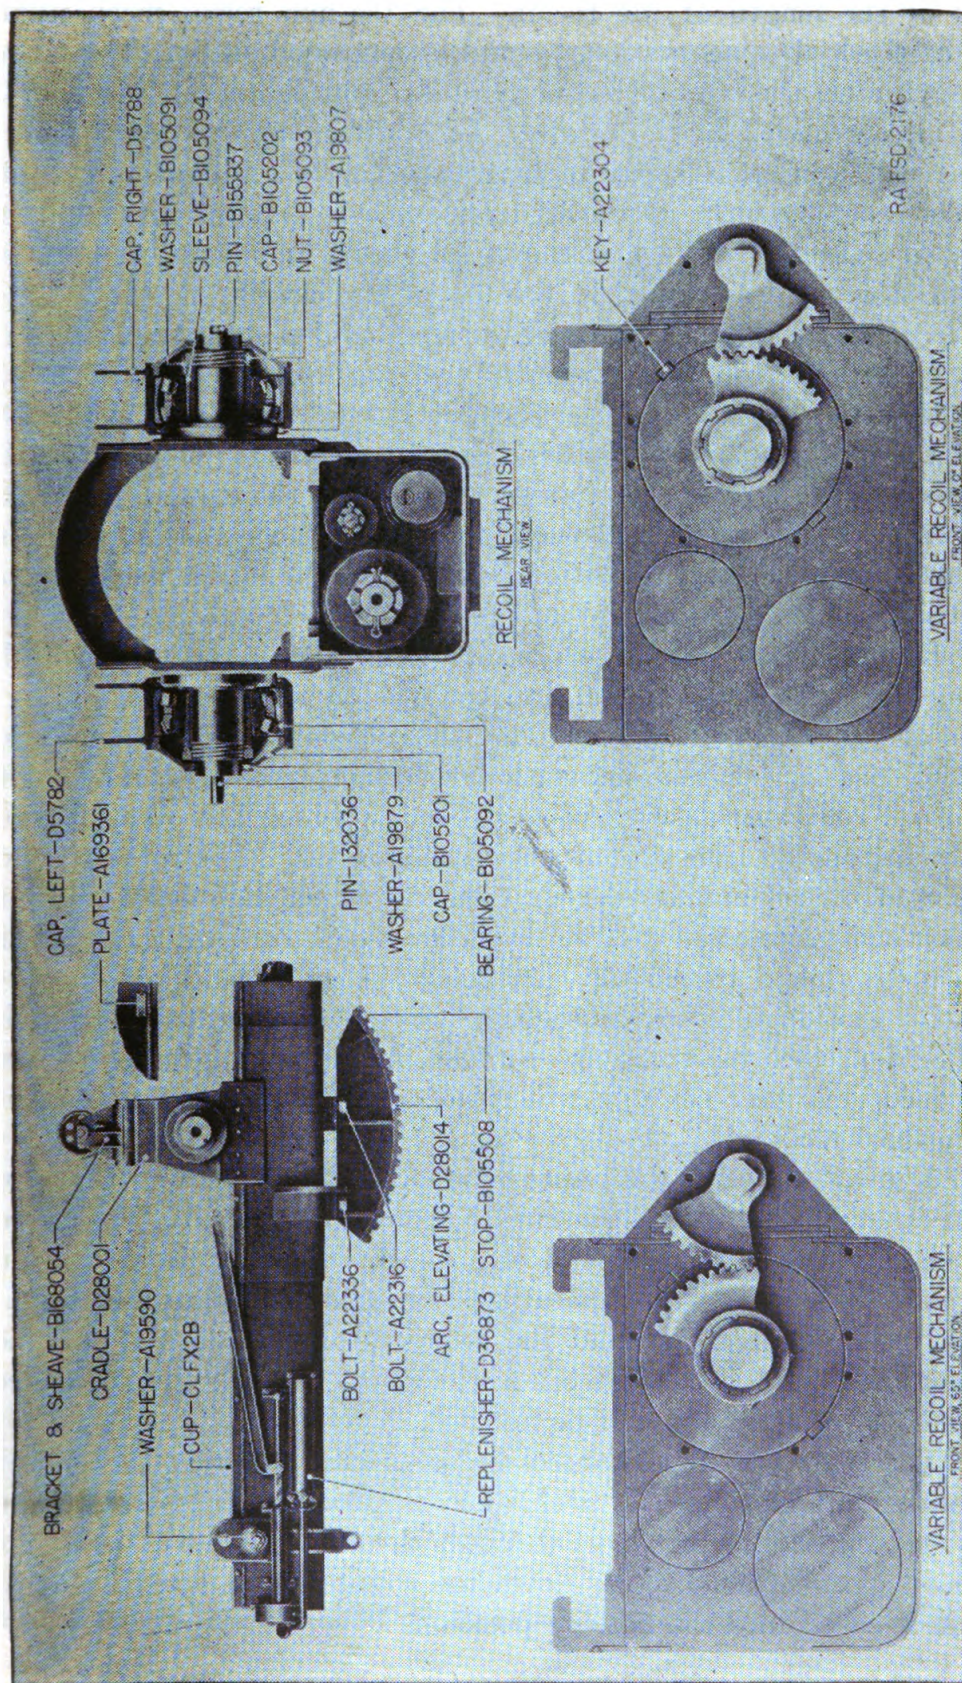

Figure 13.—155-mm gun recoil mechanism M1.
**9. Cradle.**—The cradle is mounted on the antifriction trunnion bearings of the top carriage. It houses the recoil, counterrecoil, and recuperator cylinders. The cradle trunnions form the fulcrum for the movement of the gun in elevation. One end of each of the two equilibrators is secured to the cradle near its front end. The other end of the equilibrator is attached to the trunnion cap on the top carriage. A cradle lock connection at the front end secures the cradle lock mount on the bogie to the cradle and is used to hold the cradle in the travel position. The elevating arc, which is engaged by the pinion of the elevating mechanism, is secured in alinement on the bottom of the cradle by a projection, fitting a mating groove in the cradle. The replenisher and the variable recoil mechanism are assembled to the left side and front end of the cradle. A sheave, mounted above the cradle trunnions, is used with a steel cable for retracting the gun (figs. 13 and 15).